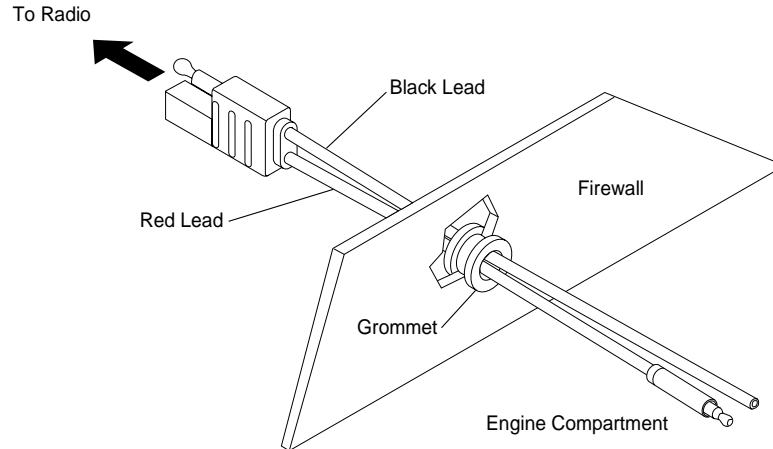

Figure 2-1. Power Cable Routing into the Engine Compartment
3. From inside the vehicle, feed the red and black leads (without the lugs attached) through the access hole and into the engine compartment. (See Figure 2-1.)